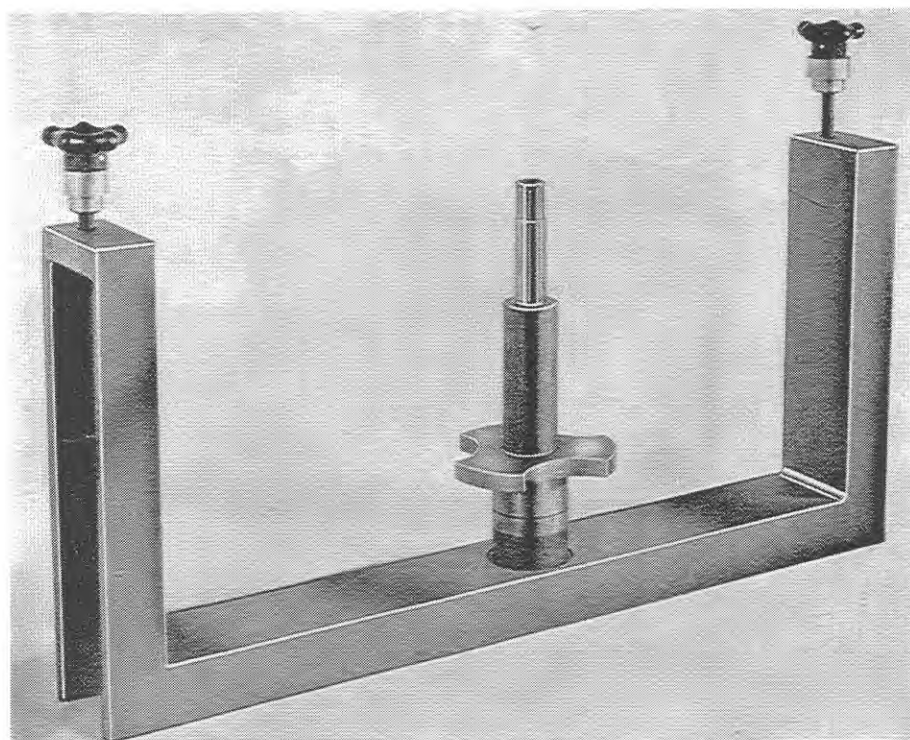
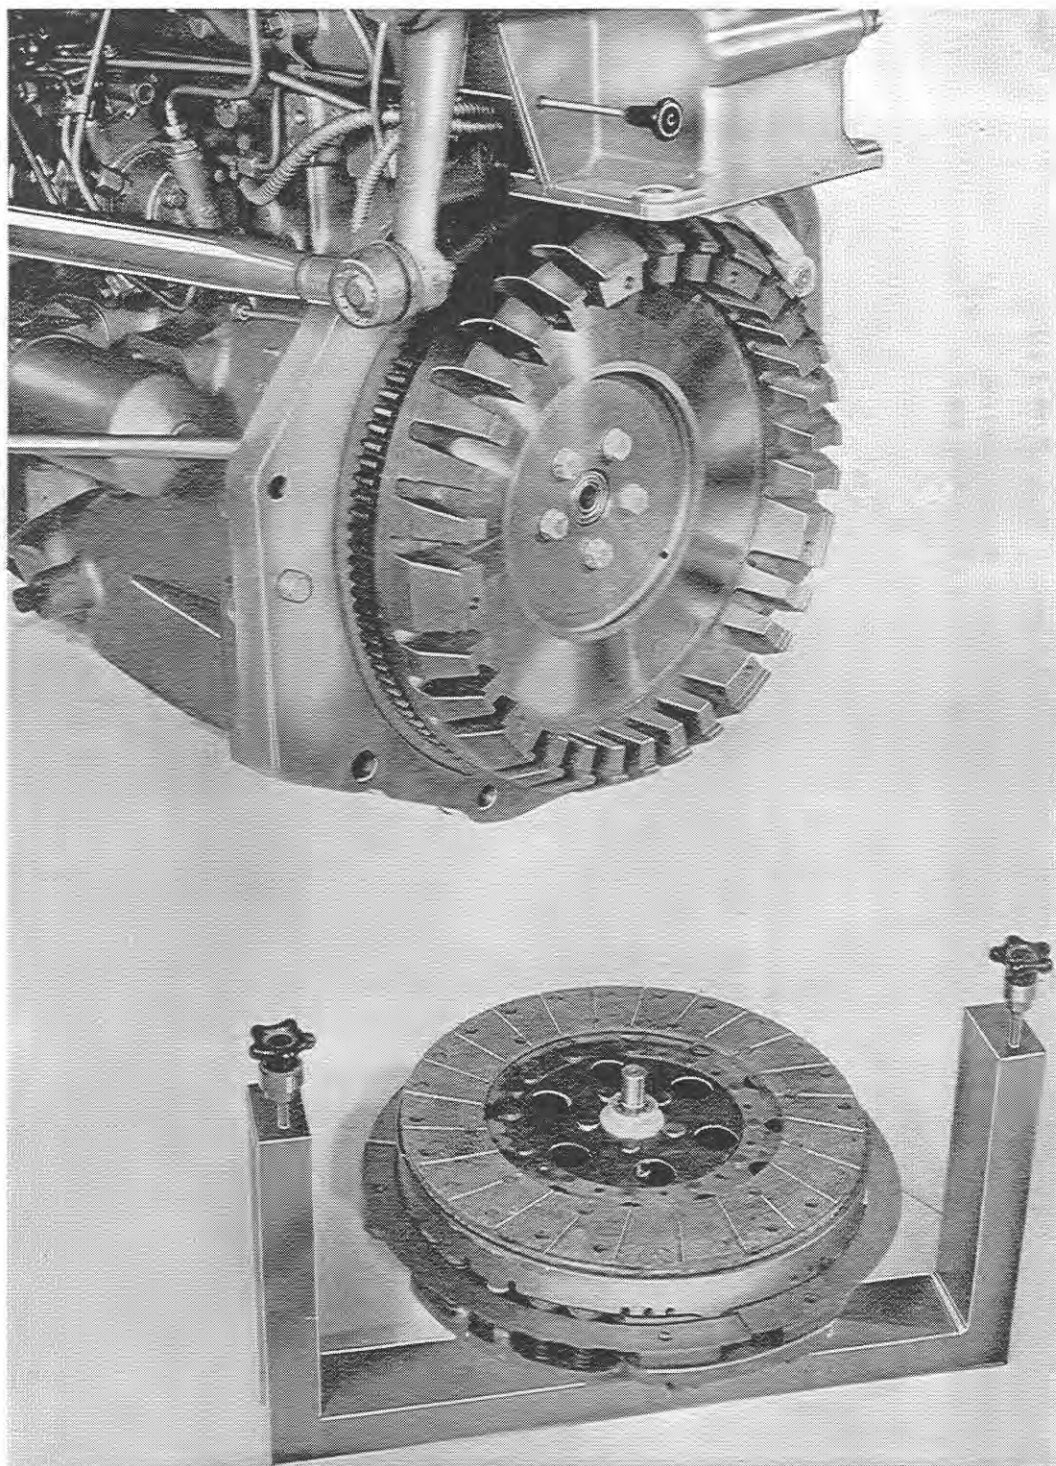

Fig. 8
Fig. 9
- 2) Put the clutch on to Service Tool MINA2 on which the spacer has already been adjusted for this tractor as shown in Fig. 8 (1), with its hub facing towards the clutch (Fig. 9).